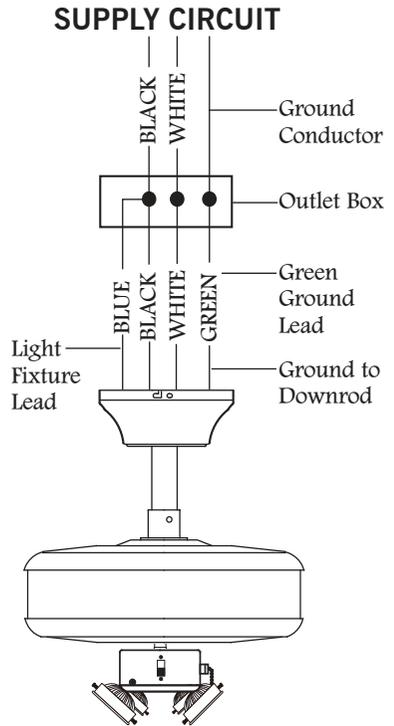

Fig.11
Step 1 Connect the fan supply (black) wire and light fixture (blue) wire to the black household supply wire as shown in Fig.11.